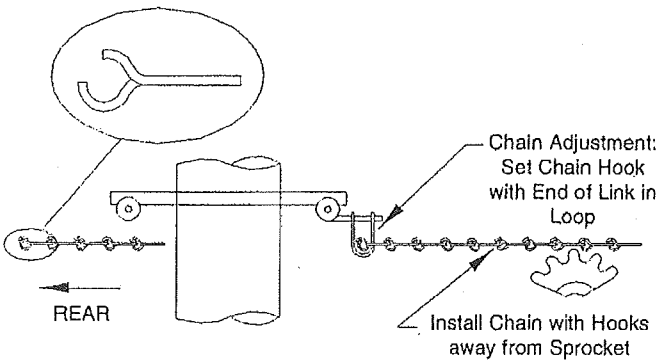

Fig. 18
- D. Install chain over sprockets with hooks away from sprockets, Fig. 18. Lubricate all bearing surfaces.
- E. Attach chain to combination "U" bolt-chain adjusting studs located on carriage/axle assembly with the chain fastener, Fig. 18.